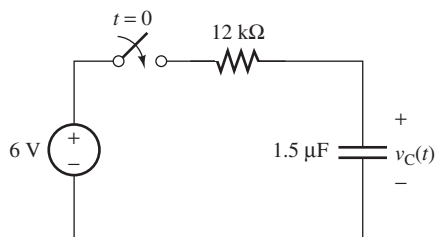

FIGURE P5.4 Circuit for Problem 5.4.
- 5.4 (A) Find the value of $v_C(t)$ in Figure P5.4 at $t = 42\text{ ms}$. $v_C(0) = 0$. (The switch closes at $t = 0$.)